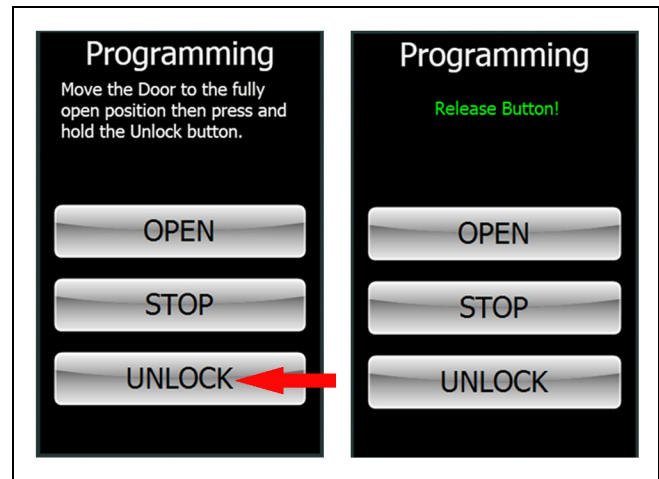

Figure 47
4. Manually move the door to the fully open position. Press and hold the "UNLOCK" button until the touch screen shows "Release Button!" or red and blue lights blink rapidly (on non-touch screens). See Figure 47.